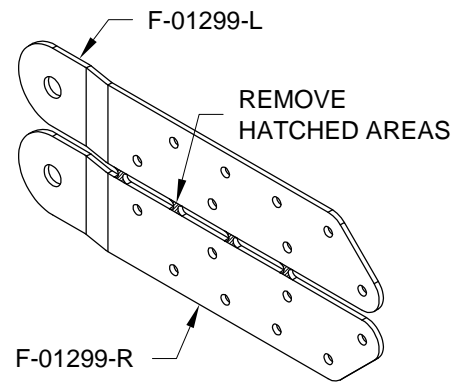

FIGURE 1: SEPARATING THE F-01299
Step 1: Separate the four F-01299 per Figure 1 by removing the hatched areas.